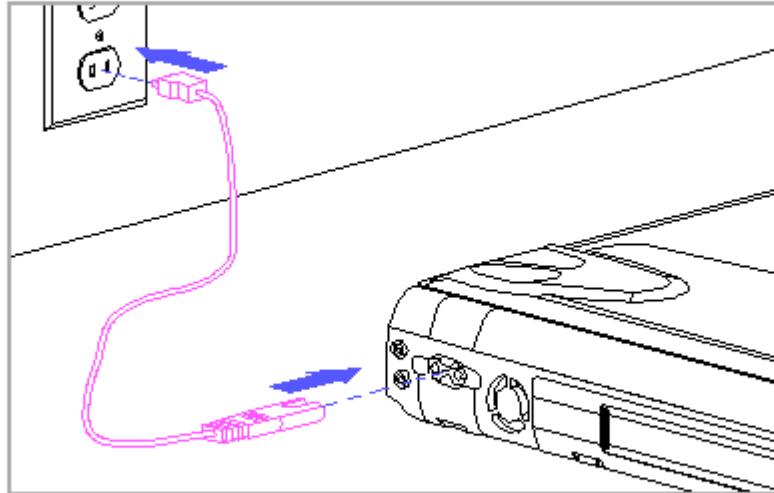

Figure 1-2. Connecting AC Power to the Computer
- o The computer's internal AC adapter when connected to the power cord (Figure 1-2)